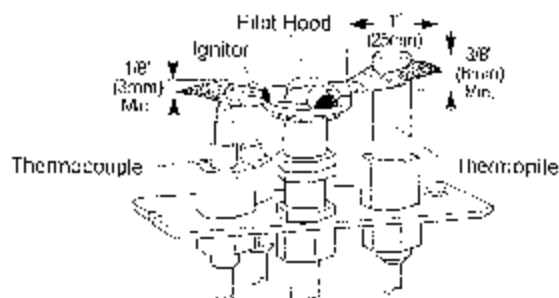

Figure 28. Correct Pilot flame appearance.
- PILOT FLAME:** The pilot flame should be steady, not lifting or floating. The flame should be blue in color around the pilot hood, with traces of yellow toward the outer edges. It is imperative that the pilot flame engulf the top 3/8" of the thermopile (power generator) and the top 1/8" of the quick drop over thermocouple. The pilot flame should project out of the pilot hood 1" at all three ports. See Figure 28.